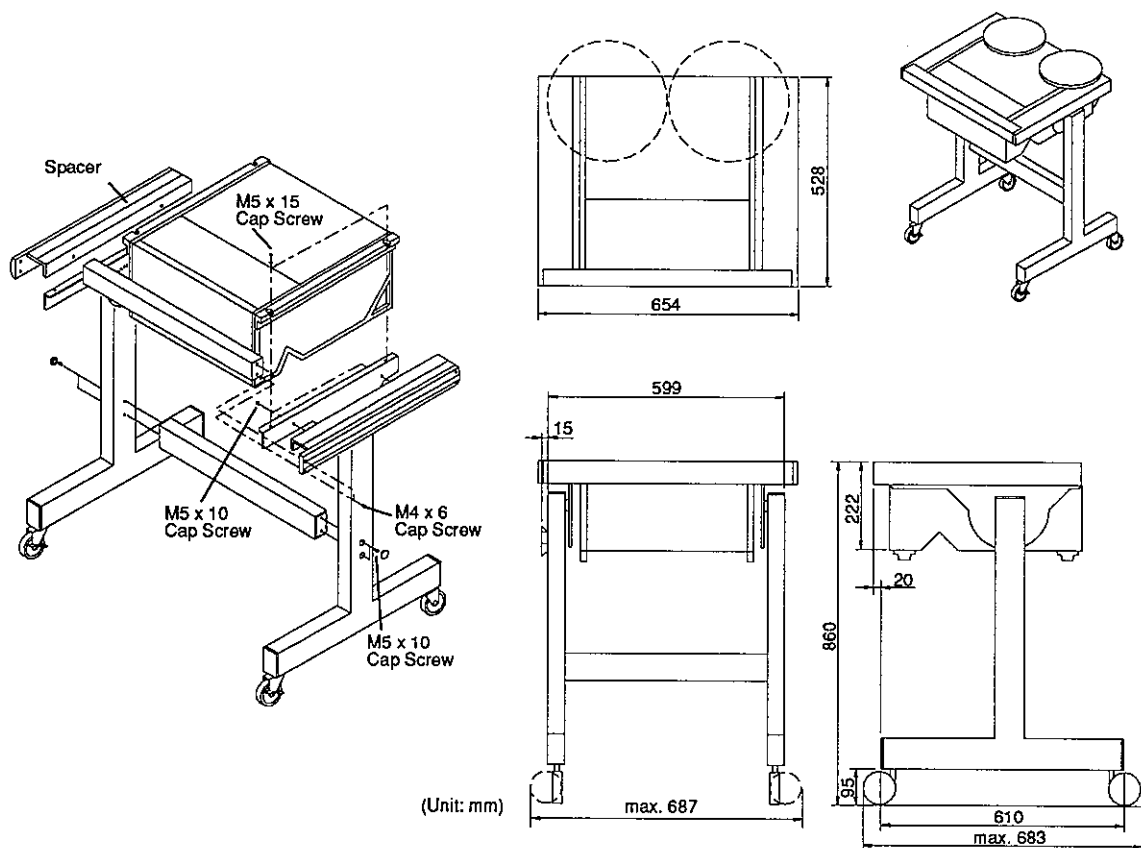

Figure 5-11
5.4.1.3.2 Assembling the ZA-81B-T with Spacer(Refer to **Figure 5-11**)
3. Assemble the Spacer and Stand as shown in **Figure 5-11**.
4. Mount the MX-55 to the Stand using the M5x15 Cap Screws with washers as shown in **Figure 5-11**.